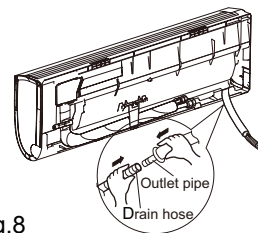

Fig.8
(1) Connect the drain hose to the outlet pipe of indoor unit. (As show in Fig.8)